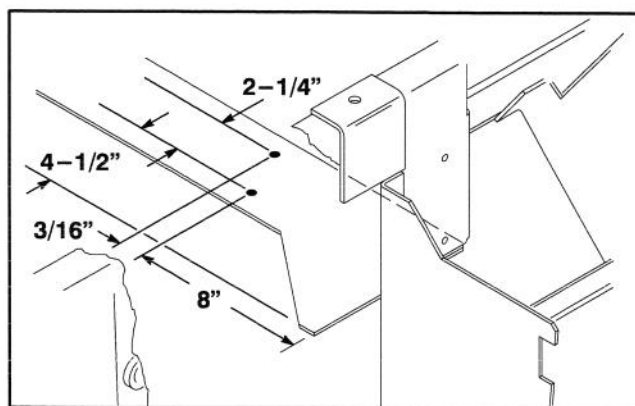

Figure 4
1. Using dimensions shown in figure 4, locate, mark and drill (2) 7/16" dia. holes in left end of frame support cross member (behind battery compartment).